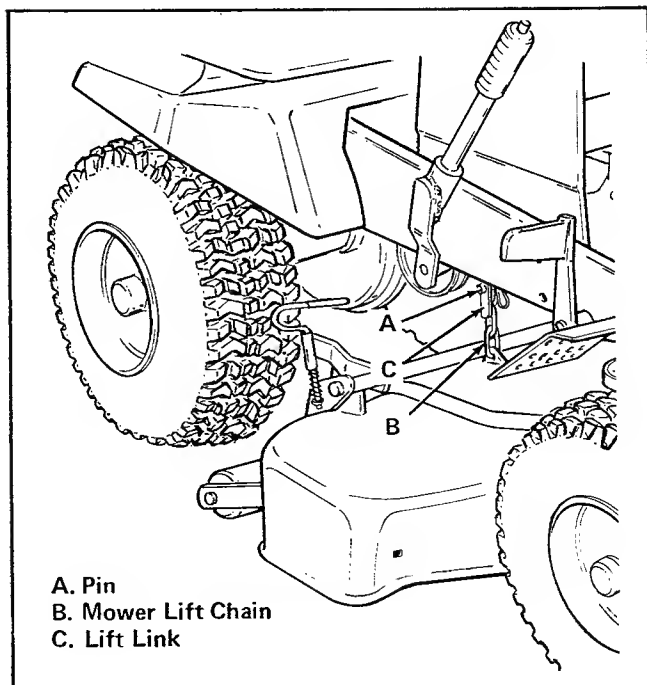

Figure 4. Attach Mower to Tractor Lift
4. Move the tractor lift lever all the way forward. Using pin (item A, figure 4) attach mower lift link (C) to tractor lift.